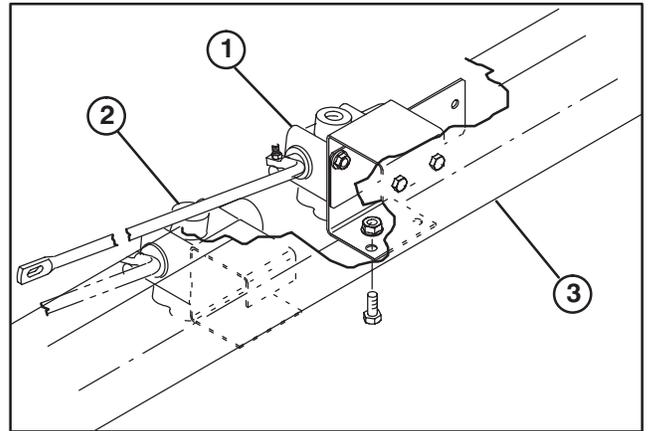

Figure 9
16. Mount auxiliary valve bracket to side and bottom of left vehicle frame rail, just behind lift valve, with (4) 5/16–18 x 3/4" lg. capscrews and flange locknuts, as shown in figure 9.